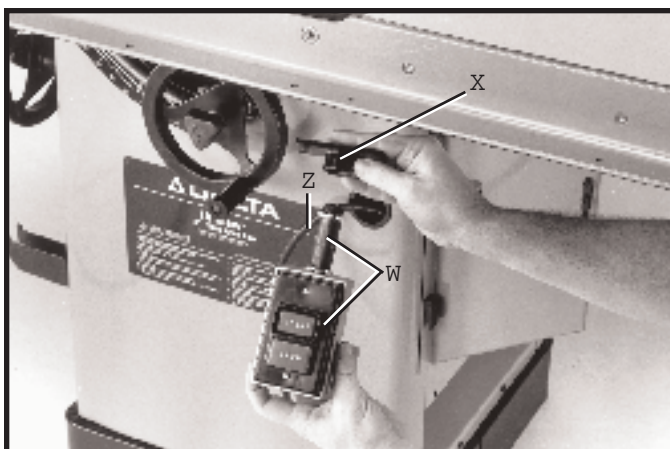

Fig. 18
15. Assemble the switch and nipple (W) Fig. 18, to switch adapter for Unisaws (X) supplied with your T-Square fence.